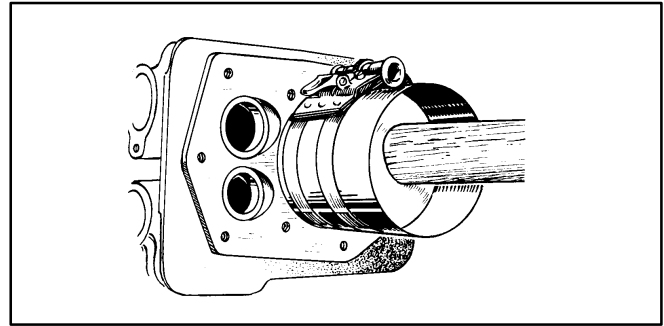

FIGURE 85. INSERTING PISTON
with a ring compressor as shown in Figure 85. Install the bearing insert in the piston rod.
5. Tap the piston into the bore with the handle end of the hammer until the connecting rod is seated on the crankshaft journal (Figure 85). If the crankshaft has been reground and/or new rods are being installed, check the bearing clearance with Plasti-gage as instructed below under Rod Bearing Clearance.